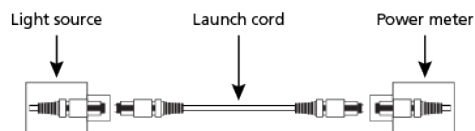

Figure 9. Set the reference
1. Set a reference between the light source and power meter using the launch cord (see Figure 9).